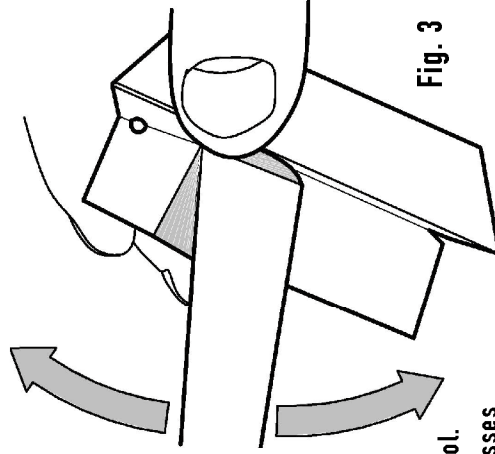

Fig. 3
- 7) Now "break-in" the paper joints in by lightly pinching the shaft of the claw arm and moving the joint back and forth (see Fig. 3).